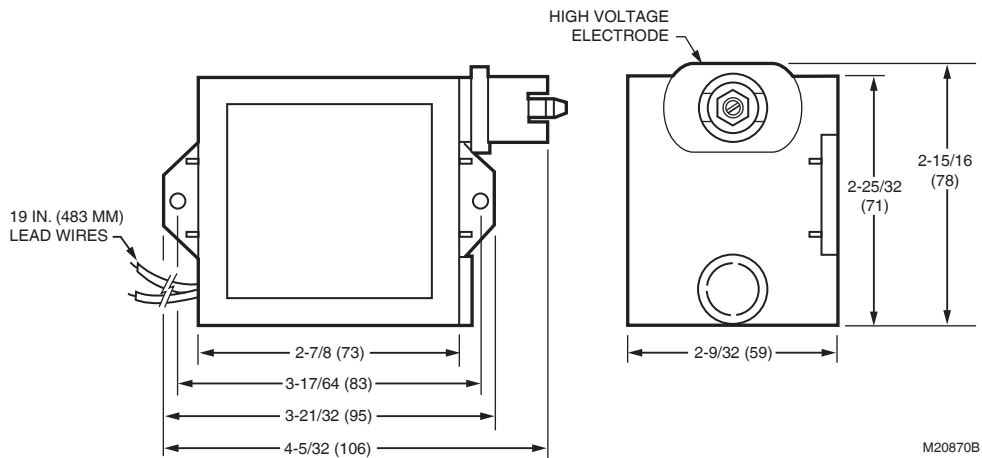

Fig. 1. Q652B dimensions in in. (mm).
**Dimensions:** See Fig. 1.
The Q652B can be mounted in any position. See Fig. 1 for mounting hole locations. Ensure that enough space is available to make the high voltage connections without difficulty.